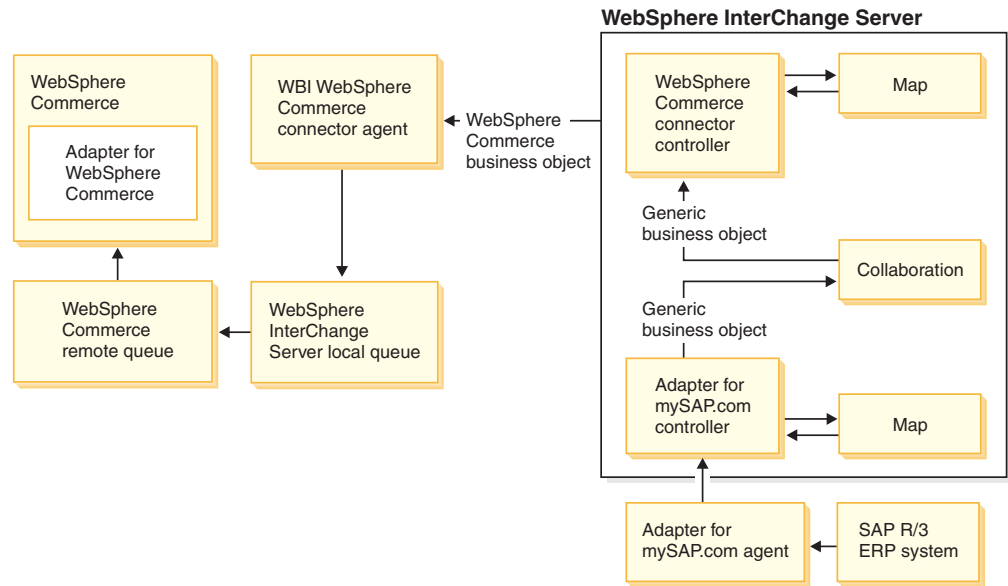

Figure 2. Asynchronous message flow into WebSphere Commerce
1. The WBI Adapter for mySAP.com agent polls for messages, receives and forwards them to the adapter for mySAP.com controller as shown in Figure 2 on page 9.